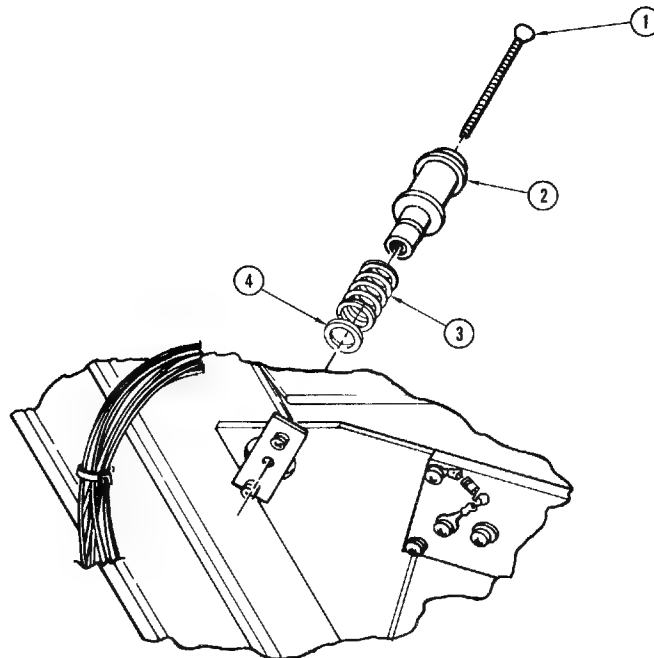

Figure 4-11. Roller Guide Assembly
4-25. **Removal and Replacement of Assembly (Figure 4-11).** Place the transport in operator maintenance access position (paragraph 4-2) and proceed as follows:
- a. Remove attaching screw (1, Figure 4-11), leaving shims (4) and spring (3) in place, remove roller guide assembly through top of top plate, saving attaching parts for reassembly.
- b. Install replacement roller guide (2), using original attaching parts.